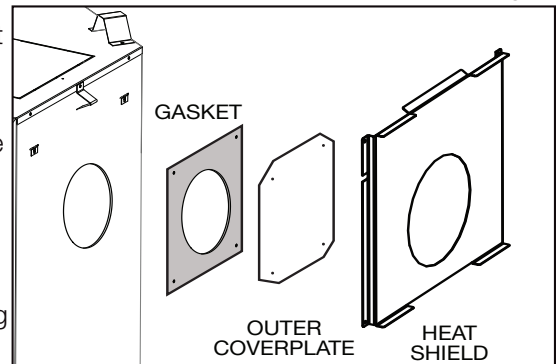

Fig. 2
- D.** Remove the four screws securing the rear heat shield, set aside the shield. Remove the four screws securing the gasket and outer coverplate. **(Fig. 2)**.